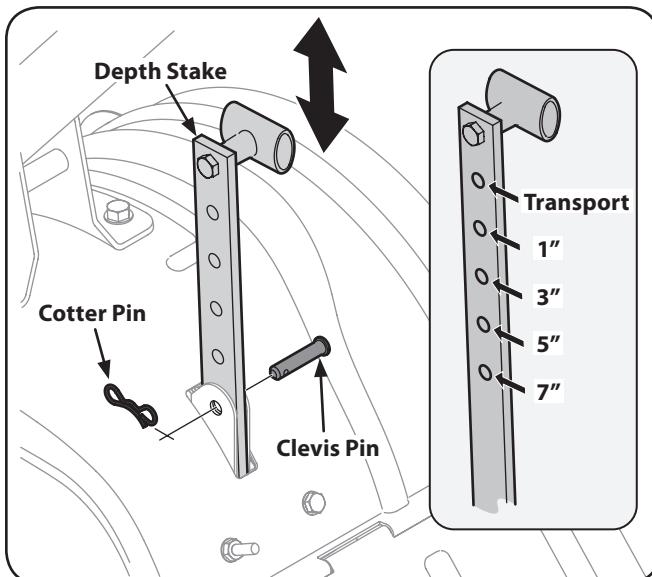

Figure 1-1
1. When using the tiller for the first time, use the second adjustment hole from the top (1" of tilling depth). See Figure 1-1.
6. To adjust the depth stake, remove the clevis pin and cotter pin. Move the depth stake to the desired setting and secure with the clevis pin and cotter pin. See Figure 1-1.